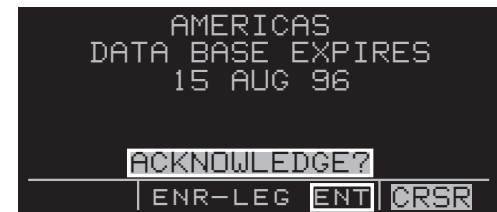

Figure 3-24
12. The Database page will now be displayed with the cursor over **ACKNOWLEDGE?**. Line 1 indicates the coverage area of the database being used. If the database is current, line 3 will show the date when the database expires (figure 3-24).